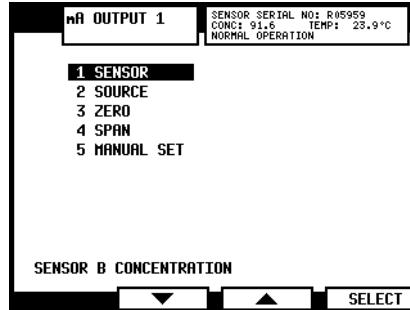

Figure 6.1 The Output menu for mA Output 1
- Select the mA output, 1 or 2, to get to the Output menu (Figure 6.1 below) where the output can be configured.
Note: The line at the bottom of the Output menu display indicates the current configuration of the selected mA output, e.g. in Figure 6.1 mA Output 1 has been configured to send the concentration reading of Sensor B.